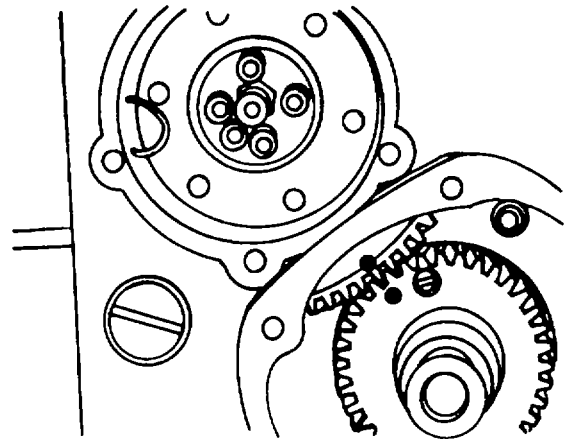

Figure 5-35. Align Timing Marks
40. Install the camshaft gear wheel so that its tooth marked • engages in the gap between teeth marked • of the crankshaft gear wheel. Align the camshaft to suit the gear wheel (figure 5-35).